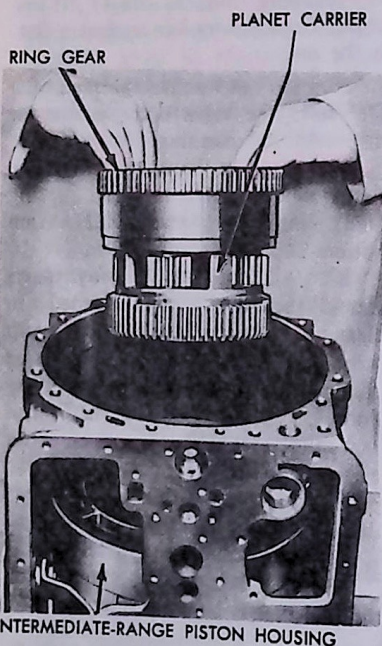

FIG. 23 Ring Gear and Planet Carrier Removal and Installation
28. Remove the low-range ring gear and intermediate-range planetary carrier (Fig. 23).